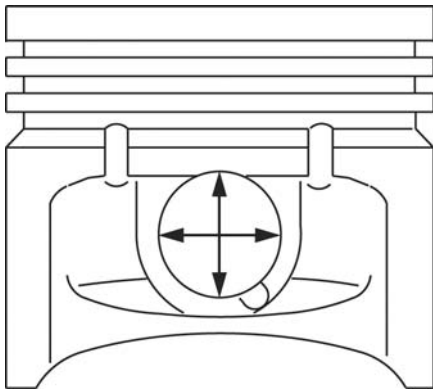

Fig. 77
3. Check piston pin bore, Fig. 77.